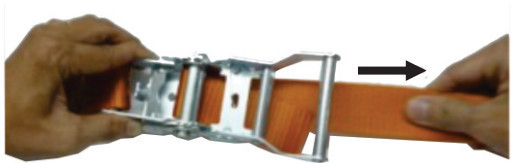

Figure 4.7
- Pull the strap out of ratchet (Figure 4.7).